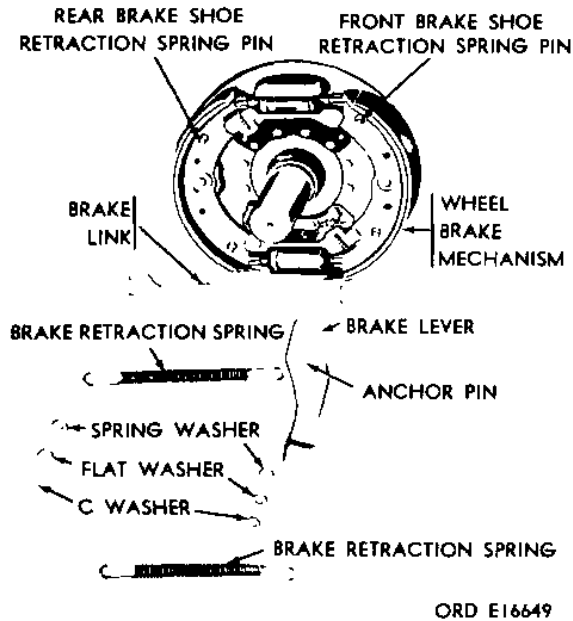

Figure 4-28. Brake internal lever and connecting link.
a. *Removal (fig. 4-28).*
(1) Open air reservoir drain cock.
(2) Remove wheel from hub (paragraph 3-18a).
(3) Remove hub and brake drum from axle assembly (paragraph 4-47a).
(4) Remove brake retraction spring, slotted washer, flat washer, and spring washer from each brake shoe spring pin.
(5) Remove parking brake internal lever and connecting link from the spring pins.